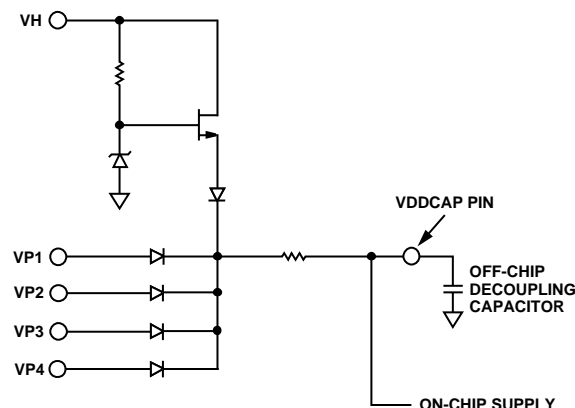

Figure 17.  $V_{DD}$  Arbitrator Operation
The ADM1060 is powered from the highest voltage input on either the Positive Only supply inputs (VPn) or the High Voltage supply input (VH). The same pins are used for supply fault detection (discussed below). A  $V_{DD}$  arbitrator on the device chooses which supply to use. The arbitrator can be considered as diode OR'ing the positive supplies together (as shown in Figure 17). The diodes are supplemented with switches in a synchronous rectifier manner to minimize voltage loss. This loss can be reduced to  $\sim 0.2$  V, resulting in the ability to power the ADM1060 from a supply as low as 3.0 V. Note that the supply on the VBn pins cannot be used to power the device, even if the input on these pins is positive. Also, the minimum supply of 3.0 V must appear on one of the VPn pins in order to correctly power up the ADM1060. A supply of no less than 4.5 V can be used on VH. This is because there is no synchronous rectifier circuit on the VH pin, resulting in a voltage drop of  $\sim 1.5$  V across the diode of the  $V_{DD}$  arbitrator.
An external capacitor to GND is required to decouple the on-chip supply from noise. This capacitor should be connected to the VDDCAP pin, as shown in Figure 17. The capacitor has another use during “brown outs” (momentary loss of power). Under these conditions, where the input supply, VPn, dips transiently below  $V_{DD}$ , the synchronous rectifier switch immediately turns off so that it does not pull  $V_{DD}$  down. The  $V_{DD}$  capacitor can then act as a reservoir to keep the chip active until the next highest supply takes over the powering of the device. A 1  $\mu$ F capacitor is recommended for this function. A minimum capacitor value of 0.1  $\mu$ F is required.